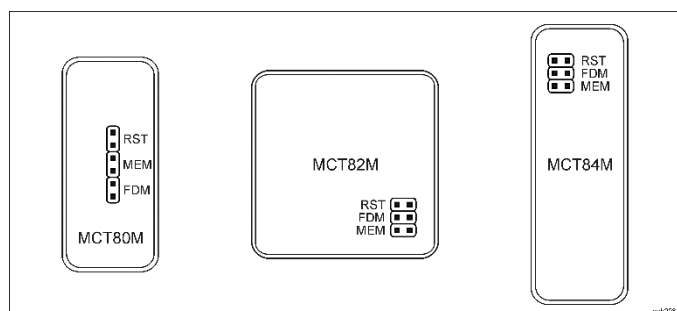

Fig. 4 Service contacts
Note: Remote configuration of device from VISO v2 software is possible only if jumper is placed on MEM contacts (fig. 4). If the jumper is removed then such configuration is blocked. In case of factory new device, jumper is placed on MEM contacts.
In RACS 5 v2 system the reader can be installed at site without previous configuration. According to AN006 application note, its address and other settings can be configured from VISO v2 management software and during such configuration the access to its service contacts (fig. 4) is not required.
2. Remove jumper from MEM contacts (fig. 4) if it is placed there.
2. Place jumper on FDM contacts (fig. 4).
- Front panel should be attached in such way as the tamper detector (fig. 4) would firmly press the back panel.